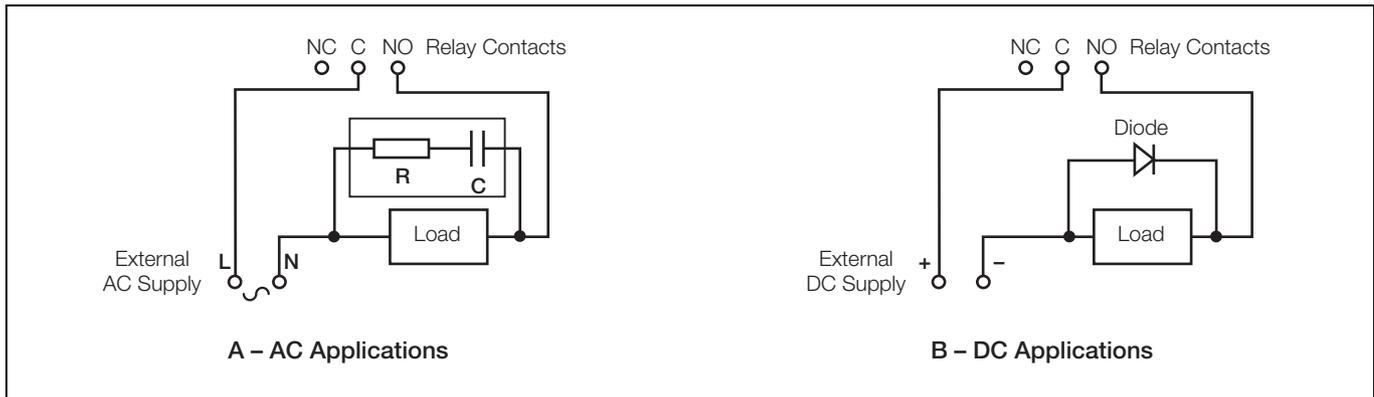

Fig. 6.6 Relay Contact Protection
6.3.1 Relay Contact Protection and Interference Suppression – Fig. 6.6
If the relays are used to switch loads on and off, the relay contacts can become eroded due to arcing. Arcing also generates radio frequency interference (RFI) which can result in analyzer malfunctions and incorrect readings. To minimize the effects of RFI, arc suppression components are required; resistor/capacitor networks for AC applications or diodes for DC applications. These components must be connected across the load – see Fig. 6.6.